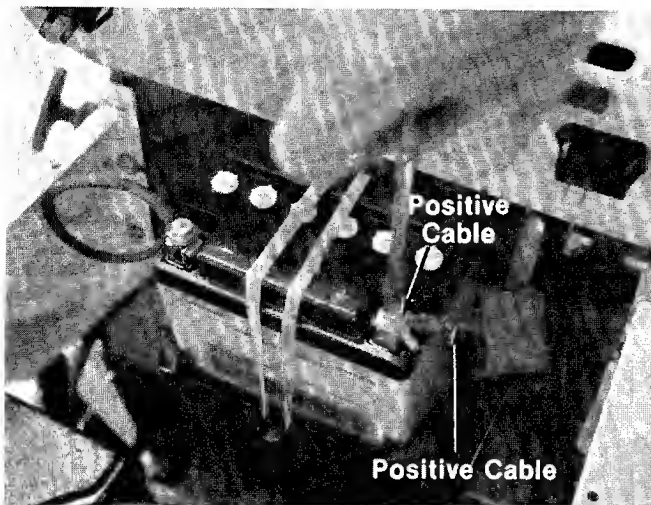

FIGURE 12.
13. Slide the square nut (provided with battery hardware) into the positive (+) terminal. Slide back the rubber boot which is on the positive cable. Place the positive (heavy red wire) cable and the small red wire (with a fuse holder in it) on the positive terminal. Secure with screw and lock washer provided. See figure 12.